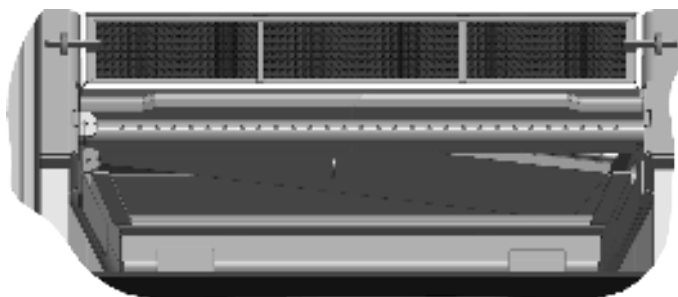

Figure 3.13. Remove the rear baffle.
4. Reach back into the firebox, lift rear refractory baffle up off the manifold, shift it left, and forward towards the door opening. Place rear baffle in a safe location. See fig 3.13.